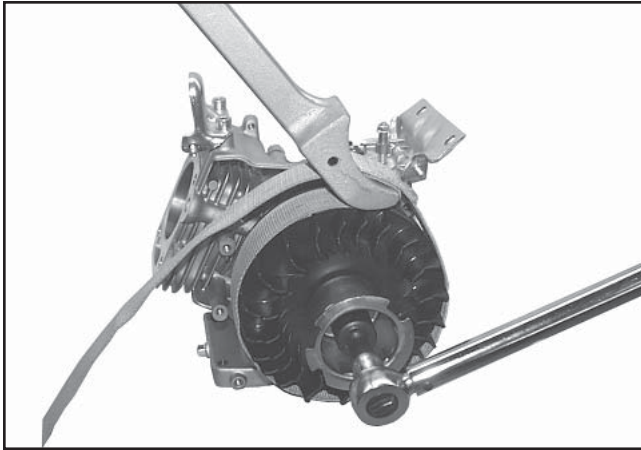

Figure 11-40. Torque Flywheel Nut.
6. Use a flywheel holding tool and torque wrench to tighten the flywheel nut. See Figure 11-40. Torque the hex flange nut to: